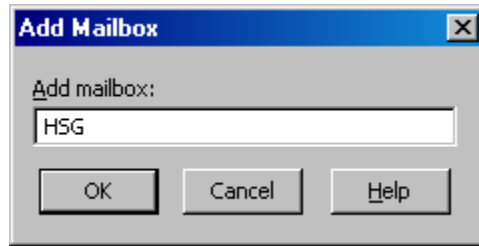

Figure 5-12. Add Mailbox window
5. Click on the **Add...** button. The popup window shown in Figure 5-12 appears.